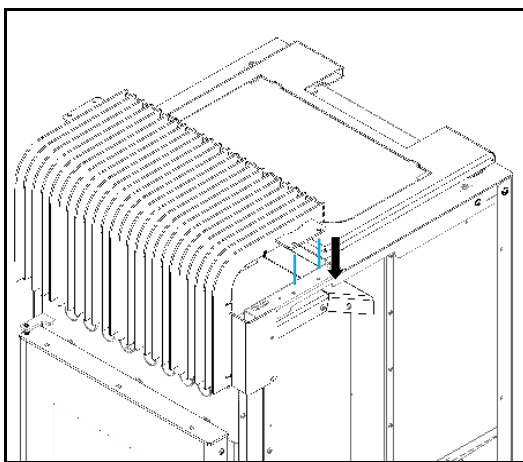

Figure 84 – Fitting the front grille
b) Fit the front grille, matching the holes in the grille to the holes in the appliance (Figure 84).